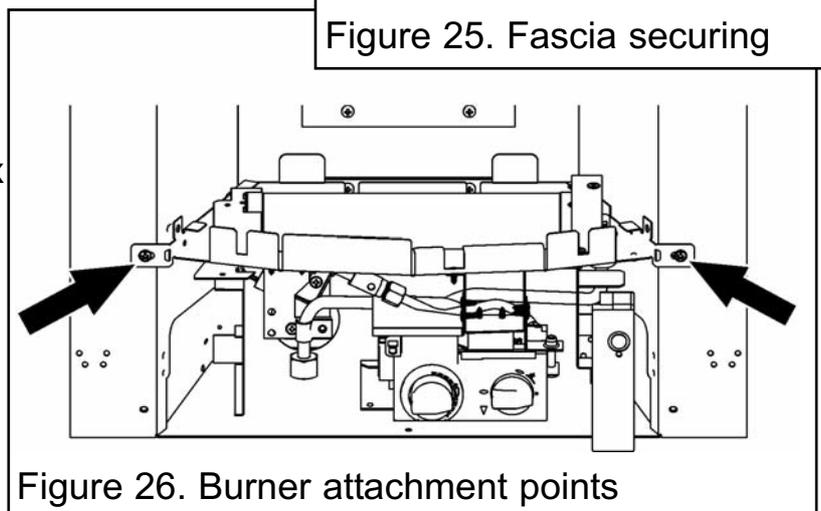

Figure 26. Burner attachment points
7. Detach the burner unit from the hotbox by removing two screws (See figure 26).